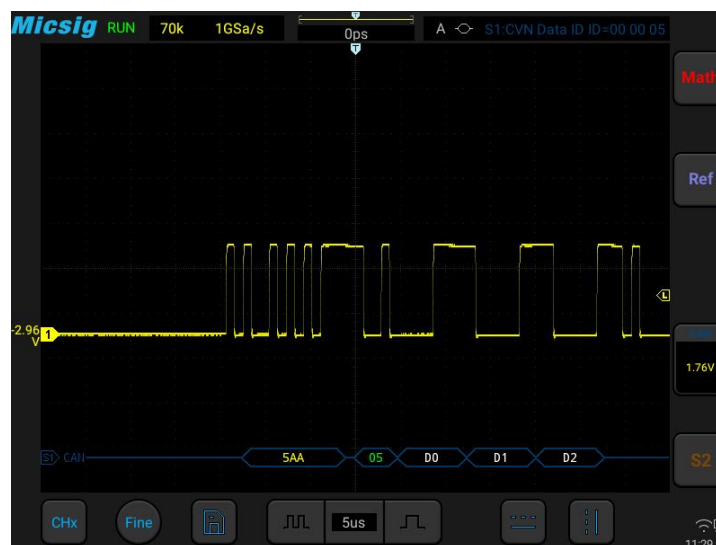

Figure 12-16 CAN Graphic Interface
- (3) Open the trigger mode configuration menu and click “Frame Start”;
- (4) Adjust the threshold level according to the signal amplitude; the CAN trigger graphic interface is shown in Figure 12-16: